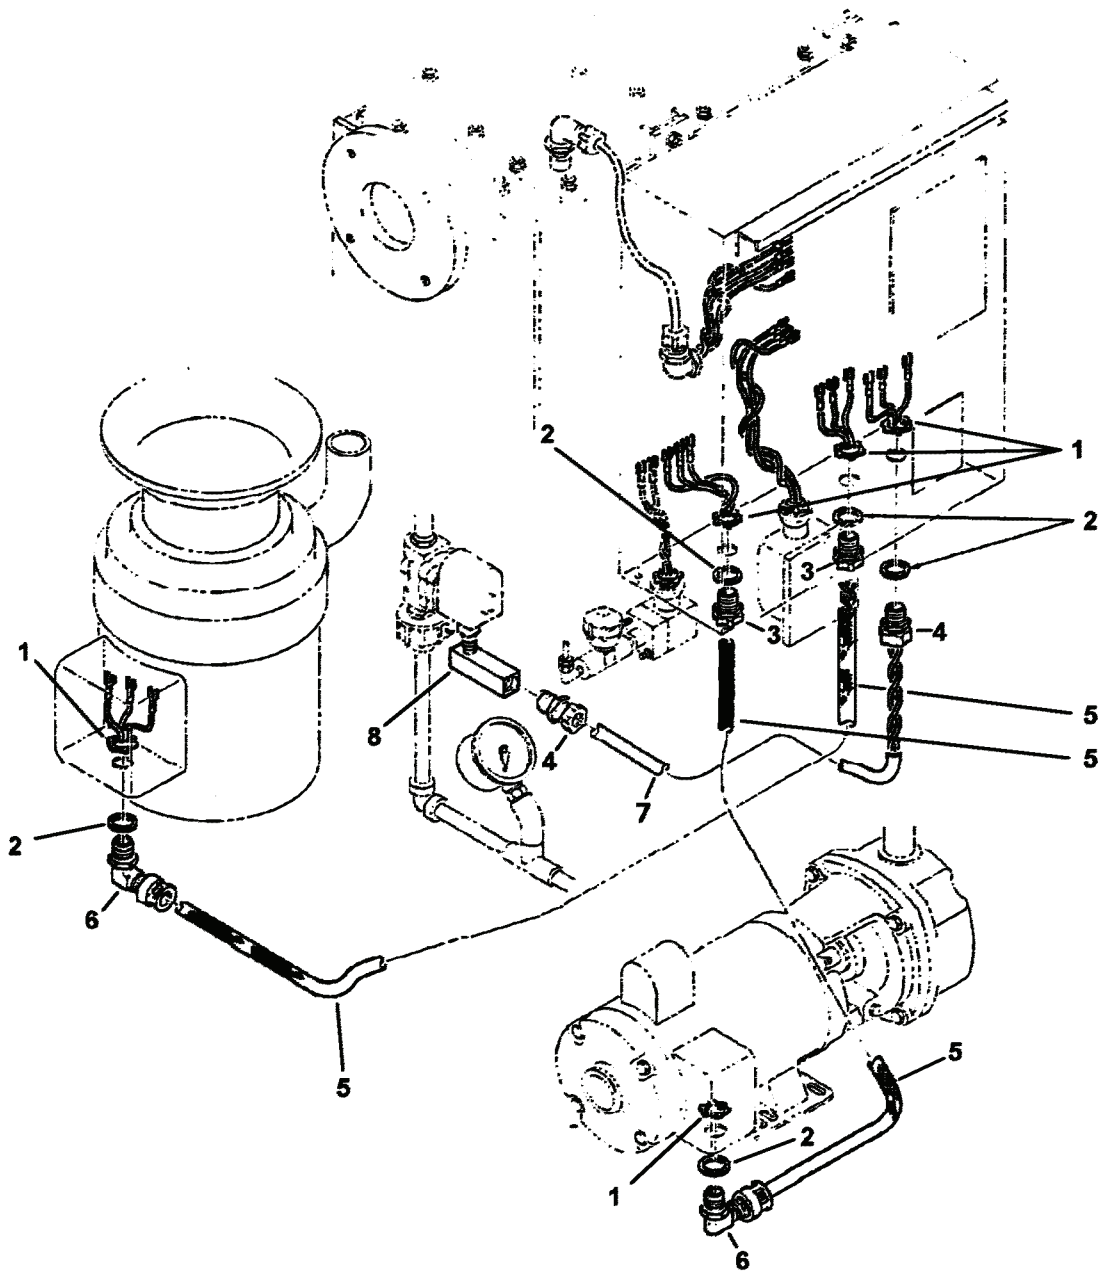

Figure 2-13. Cable Equipment Routing Assembly.
## 2-14. Cable Equipment Routing Assembly. (Figure 2-13)
### REMOVAL (See Figure 2-13 to identify the attaching point of each cable.)
- a. The procedure for disconnecting the cable from the flow pump and the macerator is the same. See Figure 2-13 for approximate flow pump and macerator locations, and remove the appropriate cable as follows:
- (1) Loosen the cable connector (6) at the electrical connection box on the pump.
- (2) Remove the electrical box cover from the pump and disconnect the wires from the pump terminals. Label all wires so that they can be returned to the same terminals on the pump when installing the new cable.
- (3) Remove the appropriate conduit locknut (1) from the cable connector (6) on the inside of the control panel assembly and withdraw the cable (5) and connector (6) from the control panel assembly.
- (4) Remove the cable connector (6) from the end of the cable (5) and gasket (2).
- a. The procedures for replacing the cable on the flow pump and the macerator are the same. See Figure 2-13 for pump locations. Connect the appropriate cable as follows:
- (1) Remove the cable from the flow pump or the macerator as described in removal procedure step a.
- (2) Run the cable (5) through the same cable connector (3) on the control panel assembly that the old cable was removed from.